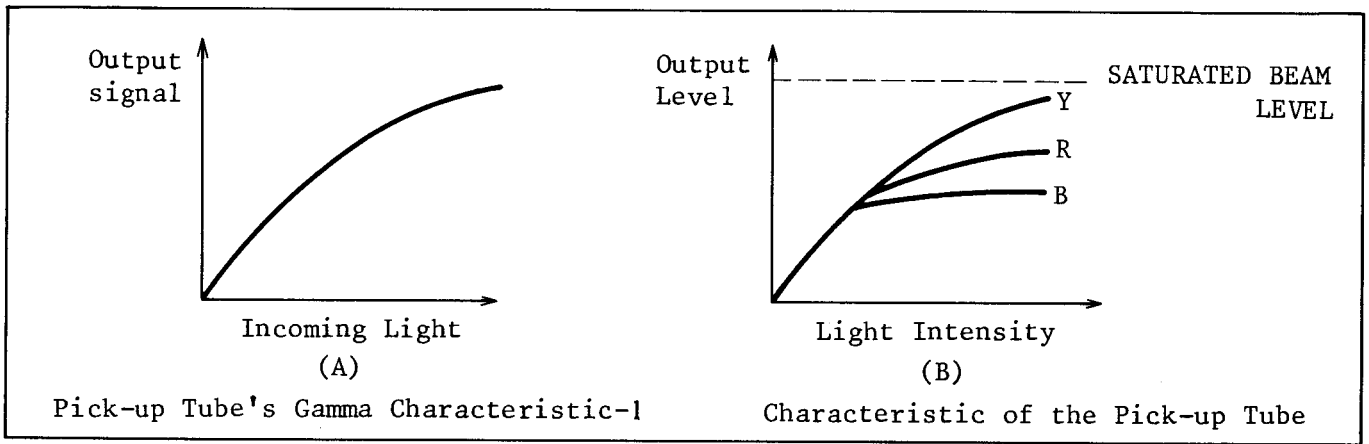

Fig. 21.
(4) De-gamma Correction Circuit
As described earlier, the pick-up tube does not have linear photoelectric conversion characteristics. A typical pick-up tube gamma characteristic is shown in Fig. 21 (A). Because of this inherent characteristic, the higher levels of the video signal will be compressed, see Fig. 21 (B).